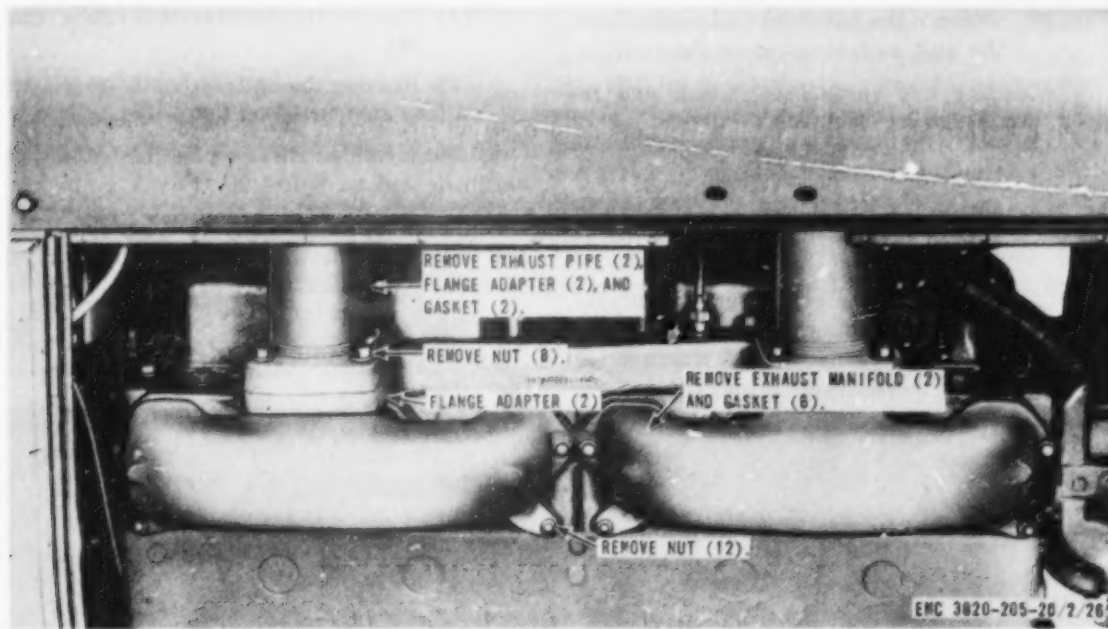

Figure 26. Exhaust pipe and manifolds, removal and installation.
- (1) Remove the muffler assembly (par. 73).
- (2) Remove the engine housing door supports (par. 93).
- (3) Remove the exhaust pipe and manifolds from the engine as instructed on figure 26.
- (1) Install the exhaust pipe and manifolds on the engine in reverse of the instructions on figure 26.
- (2) Install the engine housing door supports (par. 93).
- (3) Install the muffler assembly (par. 73).